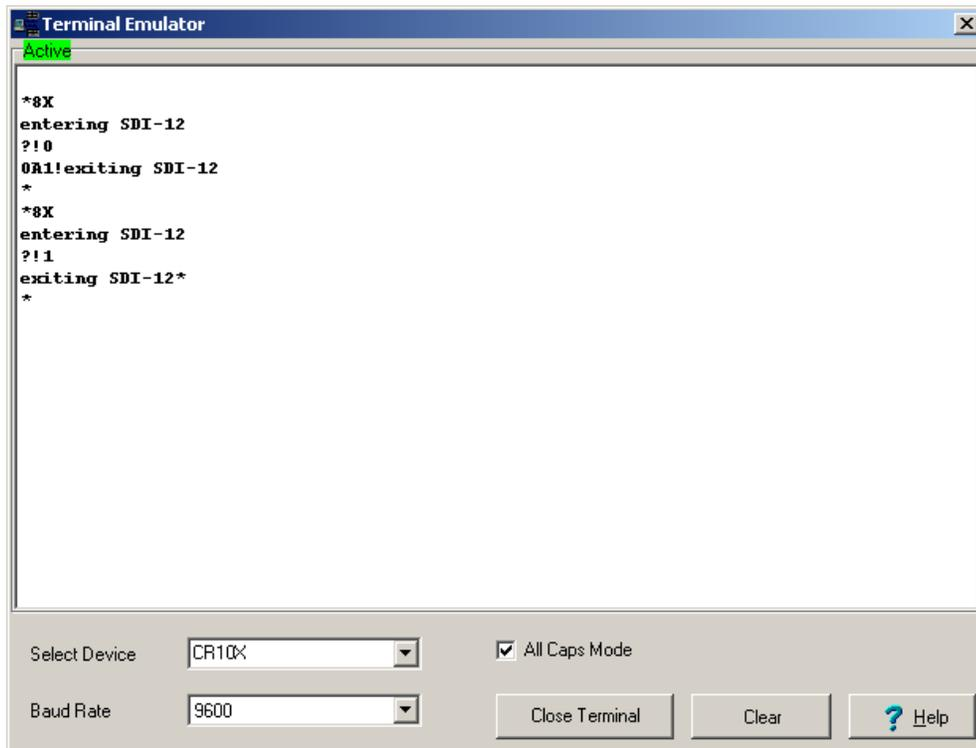

FIGURE 7-1. SDI-12 Transparent Mode on an Edlog array-based datalogger (CR10X) using control port 8 and changing the SDI-12 address from 0 to 1
- Click inside the “Terminal Emulator” window and press the <enter> key until the datalogger responds with the “*” prompt (FIGURE 7-1).